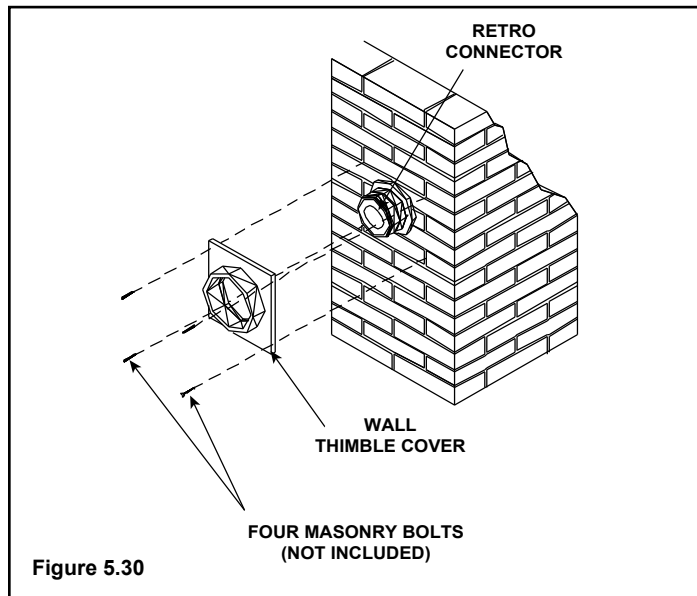

Figure 5.30
- Slide wall thimble cover over retro connector and secure with masonry bolts (Figure 5.30). If you have a framed wall in front of the masonry, use wood screws to mount wall thimble cover to framed wall, over retro connector and 10 in. (254 mm) square framed opening (Figure 5.25). If needed, add a section of direct vent pipe to the retro connector in order to extend through the opening in the wall thimble cover.